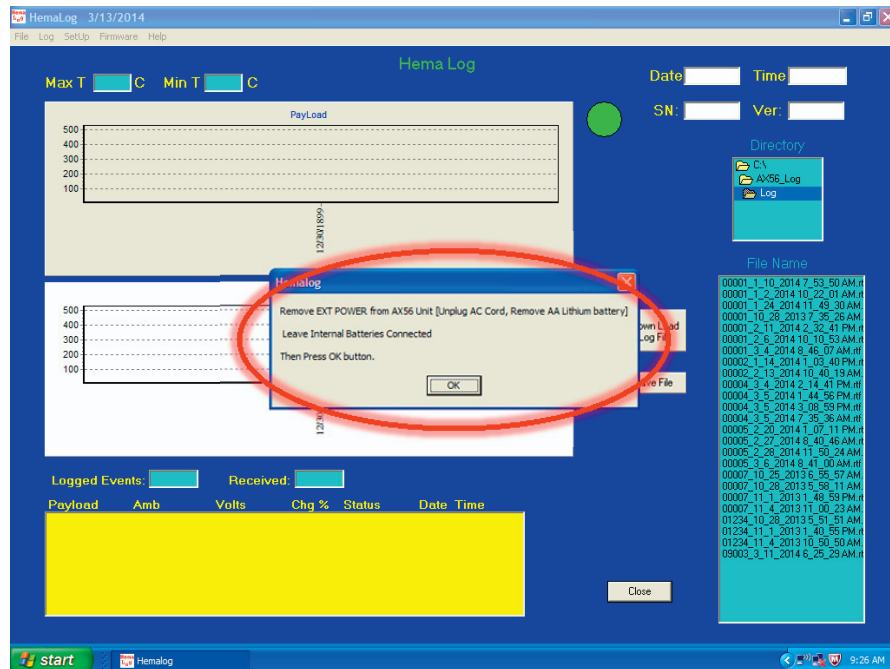

Figure 53. Remove All Power
2. Remove AC and external power from the AX56L unit (Figure 53).